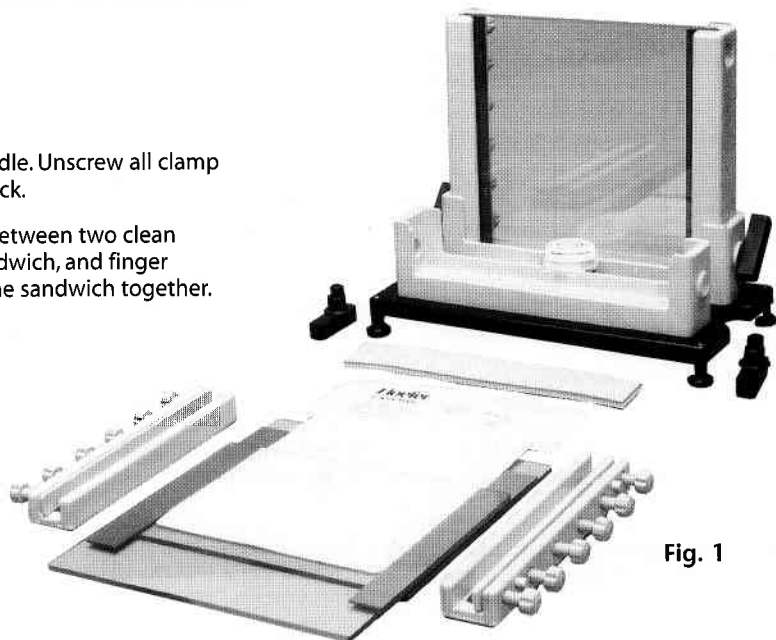

Fig. 1
- 2 Place two spacers and the SpacerMate between two clean plates (Fig. 1). Slide clamps onto the sandwich, and finger tighten one screw to temporarily hold the sandwich together.